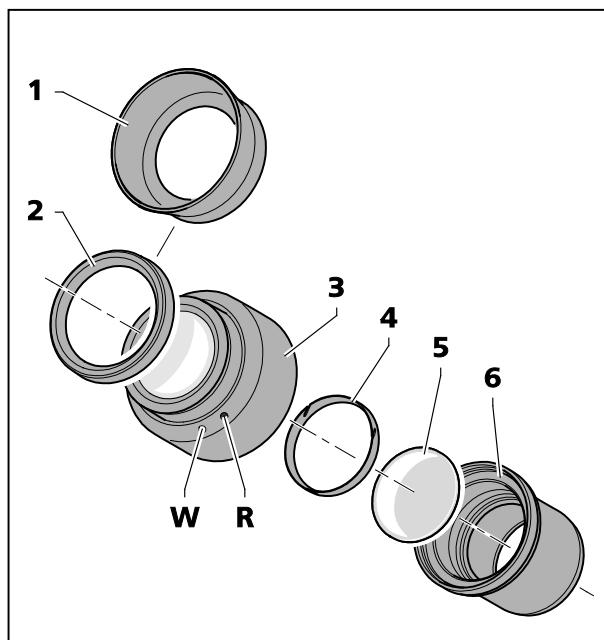

Fig. 16 Inserting the eyepiece plate
The eyepieces feature rubber protection rings for spectacles to avoid the spectacles being scratched. These rings may be replaced at choice by reversible eye cups (Fig. 16/1).
- To this effect remove the protection rings for spectacles (Fig. 16/2) from the eyepieces and position the eye cups (Fig. 16/1).
- Unscrew stop (Fig. 16/6) out of the eyepiece (Fig. 16/3).
- Pull locking ring (Fig. 16/4) out.
- Insert eyepiece plate (Fig. 16/5).
The slight image offset which is due to the additional glass distance is taken into account on the diopter scale by the zero position not being indicated by the white dot (Fig. 16/**W**), but by a red dot (Fig. 16/**R**).